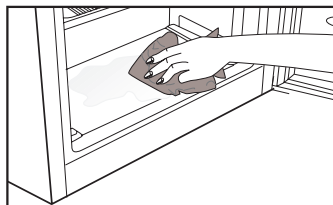

Fig 1
- Do not use pointed or sharp edged objects such as knives, forks to remove the frost. Never use hairdryers, electrical heaters and other similar electrical appliances for defrosting. When defrosting has finished, sponge out any defrost water which collects at the bottom of the freezer and dry the interior thoroughly. Insert the plug in to the wall socket and switch on the electricity supply. (Fig. 1 & 2)